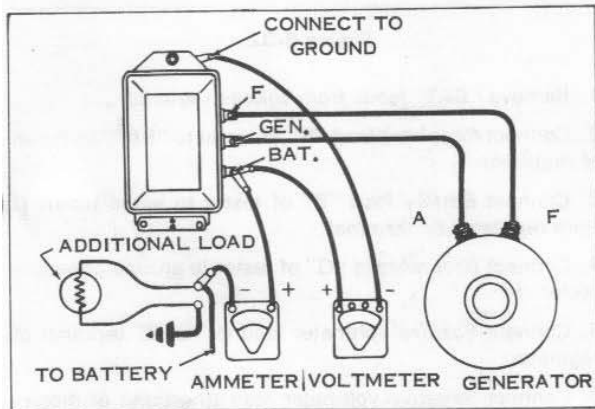

Figure 5-29.
**D. TESTING CURRENT CONTROL UNIT SETTING (Figure 5-29)**